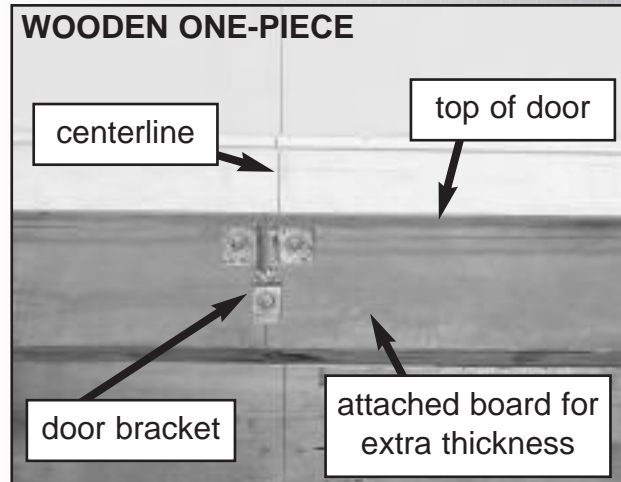

Fig. 2-12A
- Center of bracket must be on centerline of door and must be mounted as high as possible. **Fig. 2-12A & B.**
- b. Check thickness of door against lag screws. (It may be necessary to mount door bracket on a 2" x 6", etc. attached to inside of door to prevent screws from coming out other side of garage door. **Fig. 2-12A.**